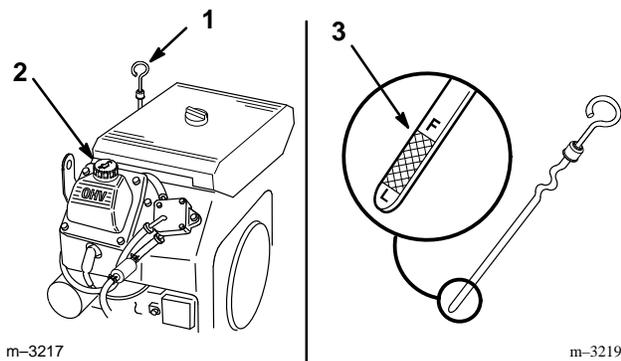

Figure 26
2. Clean around the oil dipstick (Fig. 26) so dirt cannot fall into the filler hole and damage the engine.
3. Unscrew the oil dipstick and wipe the metal end clean (Fig. 26).
4. Slide the oil dipstick fully into the filler tube, but do not thread onto tube (Fig. 26). Pull the dipstick out and look at the metal end. If oil level is low, slowly pour only enough oil into the filler tube to raise the level to the “FULL” mark.
5. Slowly pour approximately 80% of the specified amount of oil specified, page 36, into the filler tube (Fig. 26). Now check the oil level; refer to Checking Oil Level, page 37. Slowly add additional oil to bring to “FULL” mark on dipstick.